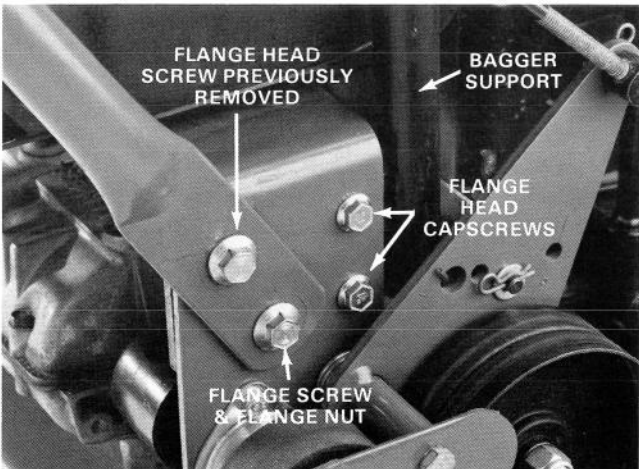

Figure 7
4. Using drilled hole and hole below it, secure side of bagger support to rear frame with (2) 5/16-18 x 1" lg. flange head capscrews (Fig.7).
5. Using (1) of the previously removed handle mounting screws and top mounting hole, secure handle to rear frame and bagger support.
6. Using bottom mounting hole in handle, secure handle to rear frame and bagger support with a 3/8-16 x 1-1/4" lg. flange screw (supplied in loose parts bag) and flange nut (previously removed) (Fig.7).